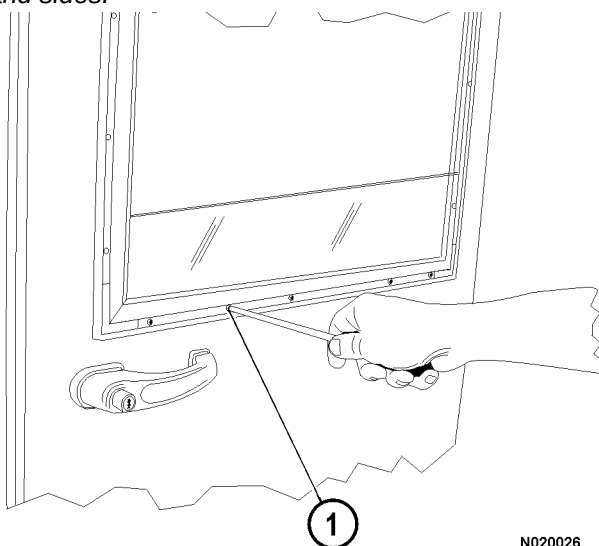

FIGURE 2-11.
9. Remove the trim material covering screws (1, Figure 2-11) that are holding the window frame to the door. Remove the screws.
The screws along the outer bottom of the window frame may be shorter than the ones along the sides and top. These screws must be used in this area to prevent the window glass from being scratched or cracked. See Figure 2-11.